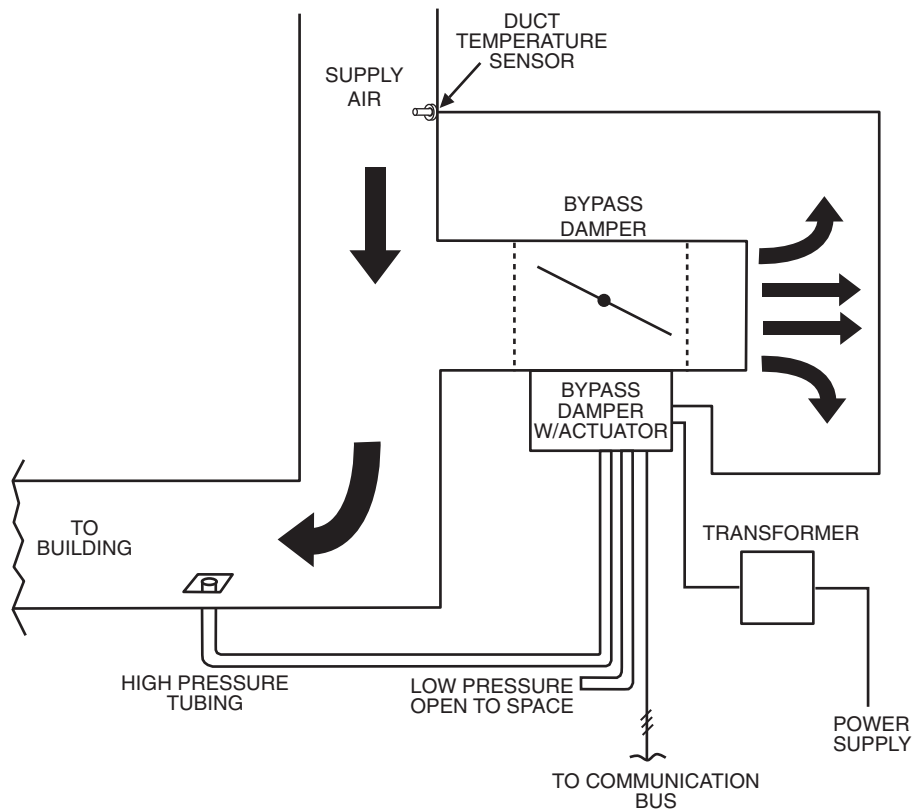

**Fig. 3 — Bypass Controller Installation**
See Fig. 3 and 6 for mounting location.
**Install Pressure Tubing** — The static pressure pick up should be located in the main supply duct before the first branching of ductwork. Run the tubing from the bypass controller to the installation location. For stable airflow measurement, the recommended minimum length of tubing is 2 ft. Connect the tubing to the high side of the pressure sensor marked P1. Make sure the low side of the pressure sensor (P2) is open to the atmosphere. See Fig. 3.